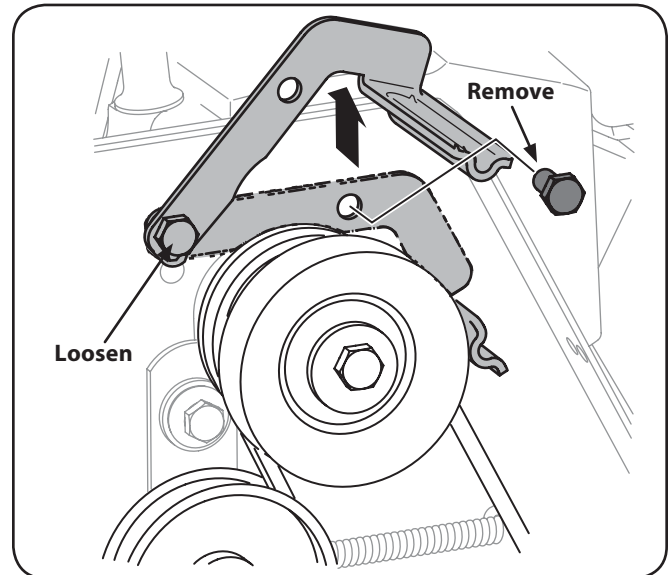

Figure 7-3
- a. Loosen the bolt shown in Figure 7-3 securing the belt keeper bracket and remove the other bolt.
- b. Push the belt keeper and bracket up off the engine pulley. See Figure 7-3.